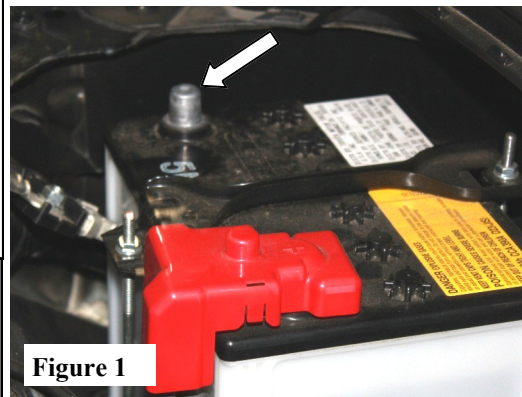

Figure 1
1. Disconnect the battery from the vehicle as recommended by the vehicle manufacturer. (See Fig. 1)